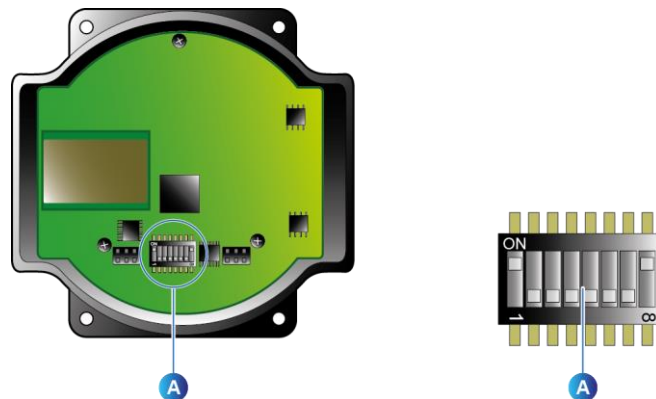

Figure 49: micro switch configuration on the master receiver.
- Position the microswitches as shown below (Figure 49, A) **after opening the cover of the master receiver:**